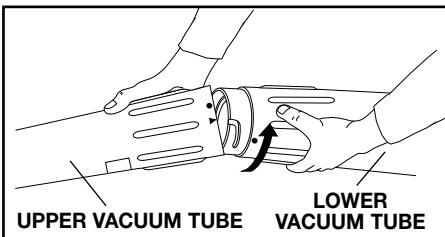

Fig. 9
4. Slide the lower vacuum tube into the upper vacuum tube. The arrow on the lower vacuum tube should align with the arrow on the upper vacuum tube (Fig. 9).
5. Turn the tube clockwise until the dot on the lower vacuum tube aligns with the dot on the upper vacuum tube (Fig. 9).